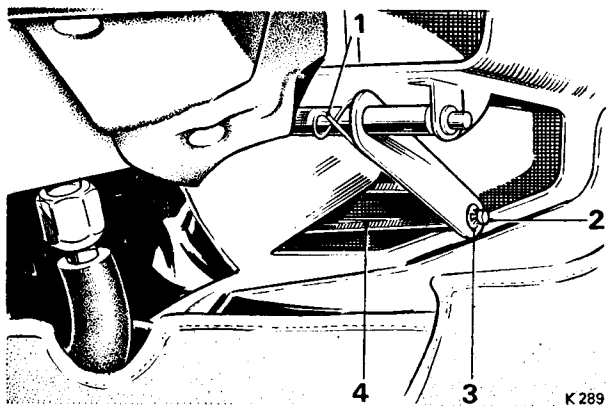

FIG. C12 POSITION OF LOWER QUANTITY FLAPS (Deflector removed)
3. Fit and tighten the actuator onto the spindle noting that the inset (see Fig. C12) shows the linkage arrangement for late cars.
(see Fig. C12)**